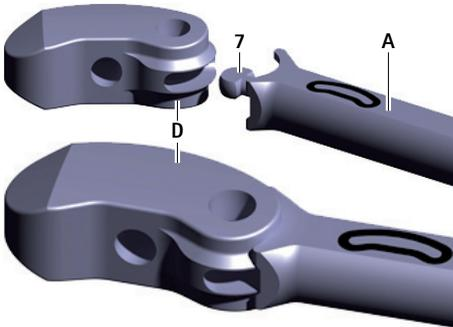

Fig. 2 Coupling the trial implant to the insertion instrument
- ▶ Couple the trial implant D to the dihedron 7 on the insertion instrument A, see Fig. 2. When doing so, pay attention to the orientation of the trial implant (orientation according to the marking on the insertion instrument).